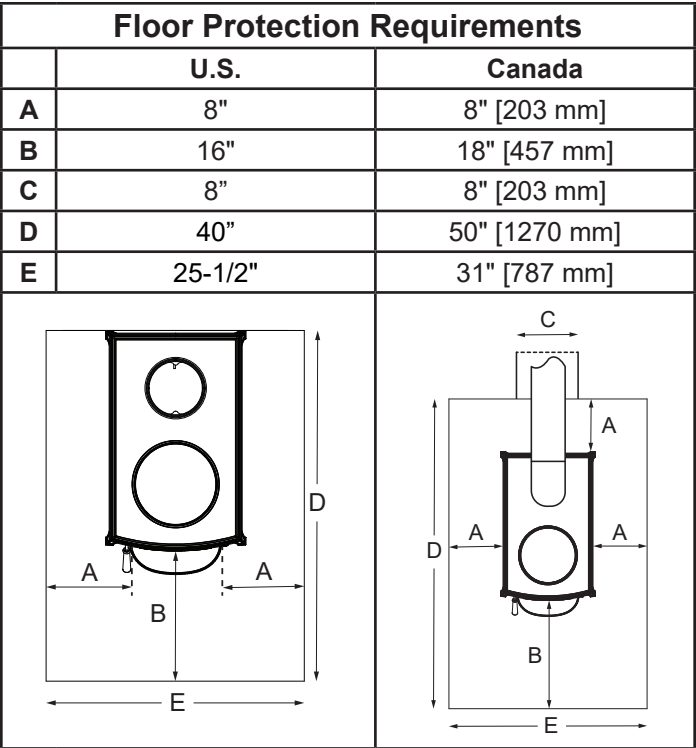

Figure 3.4 - These dimensions are minimum requirements only. Use greater dimensions whenever possible.
U.S. Installations: Non-combustible floor protection is required under the stove and must extend at least 16” from the front of the door opening and 8” from the sides of the door opening. (C, Figure 3.4)
Canadian Installations: Non-combustion floor protection is required under the stove and must extend at least 18” from the front of the stove and 8” from the sides of the stove. It must also extend under the chimney connector and 2” to either side of any horizontal runs. (A, Figure 3.4)